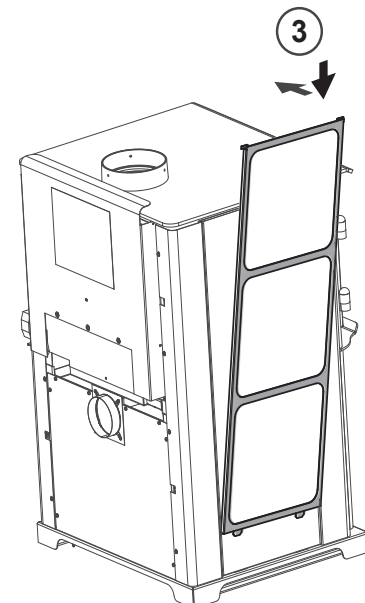

Figure 24.4
4. Reattach tile frame (**Figure 24.4**).